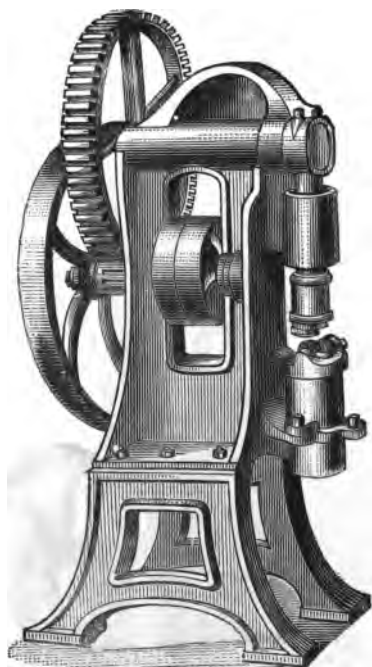

Fig. 89.—HEEL COMPRESSING OR MOULDING MACHINE.
**Heel Compressing or Moulding Machine.**—The working parts of this machine as will be seen by referring to Fig. 89, are exceedingly simple. The lifts that are intended to compose the heel are placed in a mould or die of the required shape and subjected to a heavy pressure. A machine very similar to this was invented by Mr. Waller, a well-known artist, some twenty-five years since. The employment of this machine is confined to heels attached from the inside.